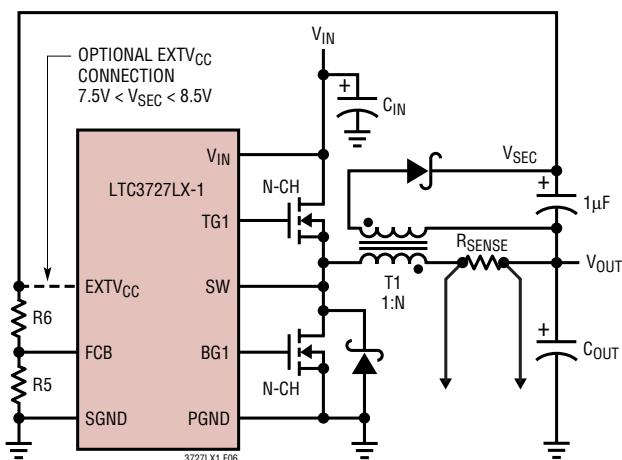

Figure 6. Secondary Output Loop & EXTV_{CC} Connection
4. EXTV_{CC} Connected to an Output-Derived Boost Network. For 3.3V and other low voltage regulators, efficiency gains can still be realized by connecting EXTV_{CC} to an output-derived voltage that has been boosted to greater than 7.5V. This can be done with the inductive boost winding as shown in Figure 6.
The secondary output voltage V_{SEC} is normally set as shown in Figure 6 by the turns ratio N of the transformer: